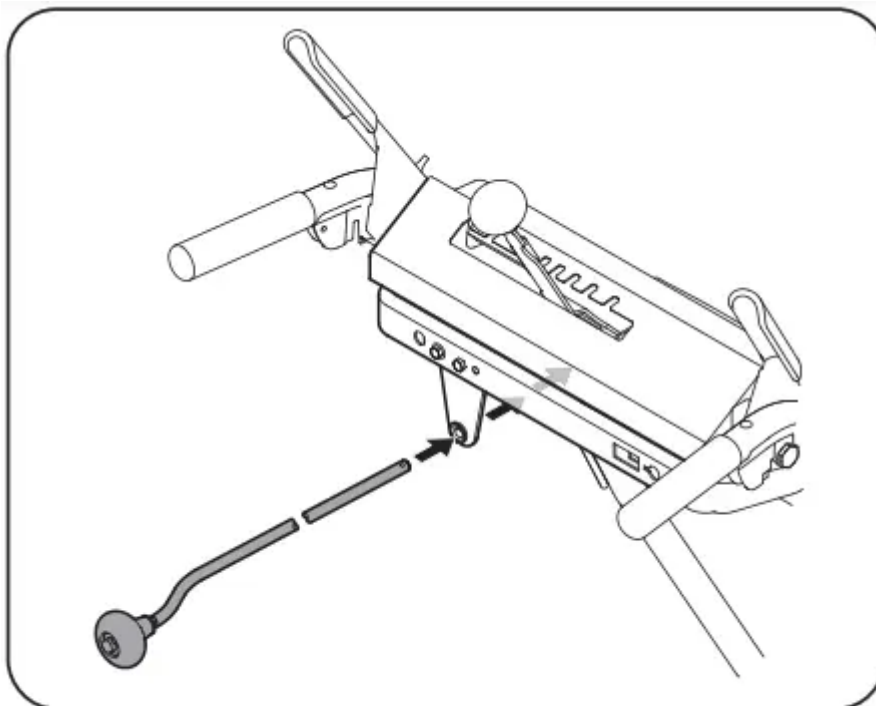

Figure 16
4. Insert chute control rod into the support bracket on rear of the dash panel. See Figure 16